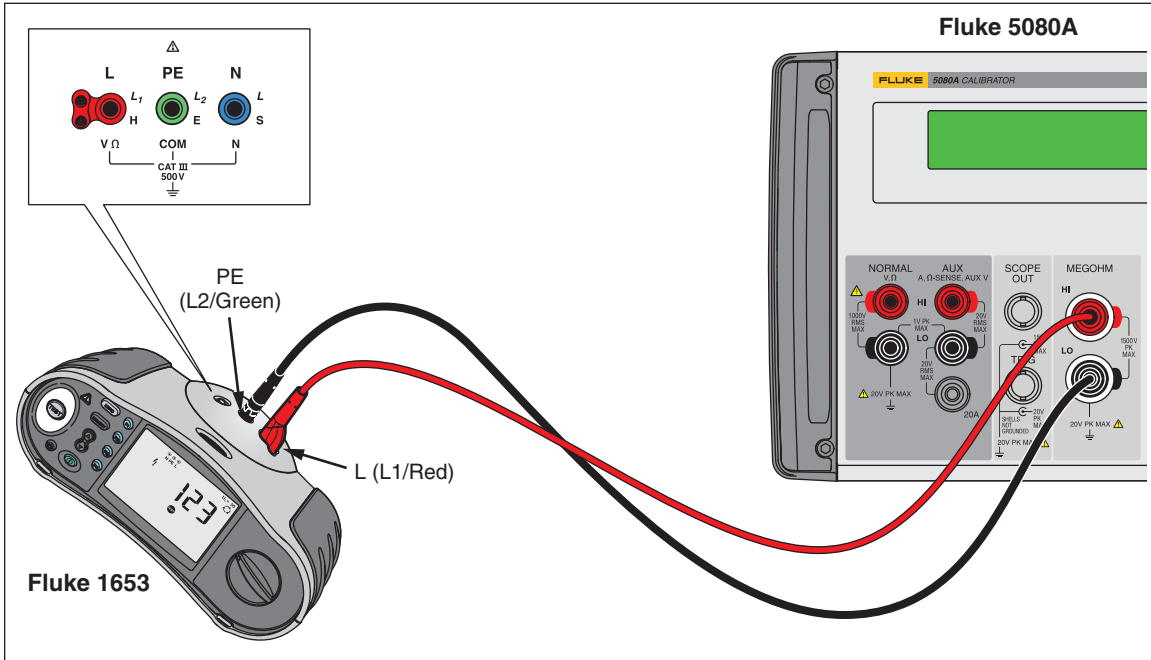

Figure 4. Calibrating Insulation Resistance of an Insulation Tester
Use the High Resistance Source function to calibrate the insulation resistance function on insulation testers/megohm meters, installation testers, appliance testers, and electrical safety analyzers. Figures 4 through 8 shows how to connect the Calibrator to five different types of UUTs for an insulation resistance calibration.
3. Depending on the type of UUT, connect the UUT to the Calibrator as shown in Figures 4 through 8.